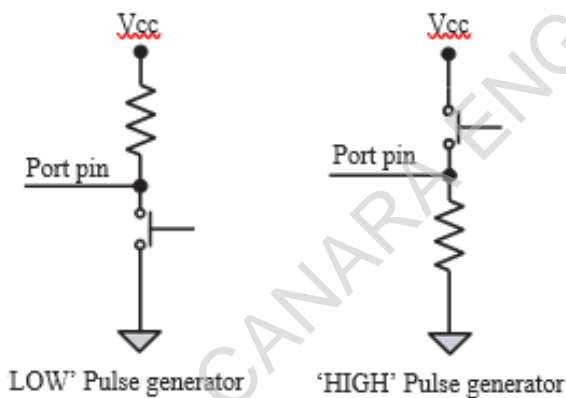

Fig. 2.23 Push button switch configurations
- The Push button is normally connected to the port pin of the host processor/ controller. Depending on the way in which the push button interfaced to the controller, it can generate either a 'HIGH' pulse or a 'LOW' pulse. Figure 2.23